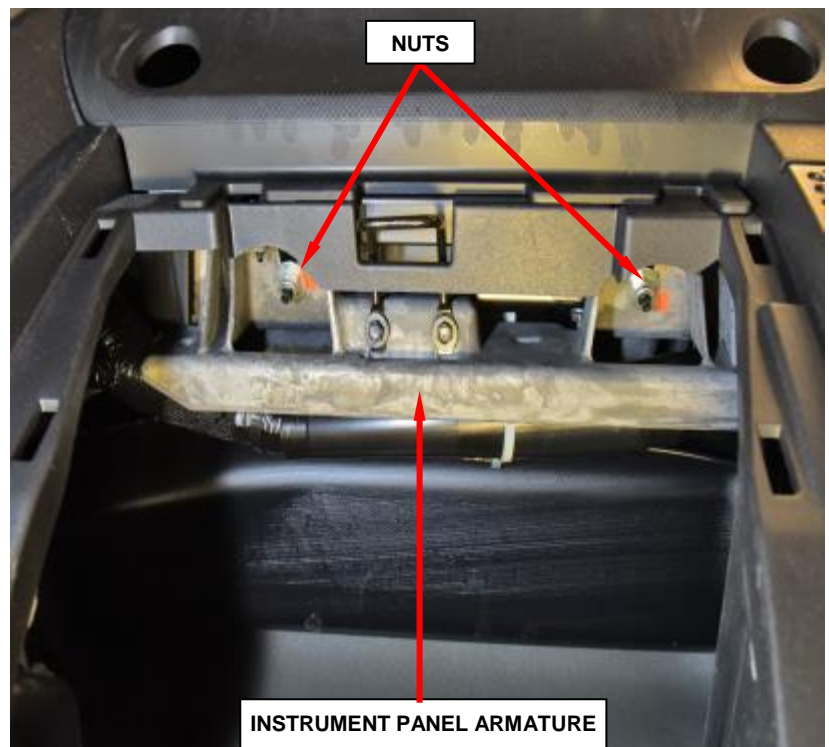

Figure 117 – Lower Passenger Airbag Nuts
6. Reach up into the instrument panel glove box opening to access and remove and **save** the two nuts that secure the passenger airbag lower studs to the instrument panel armature on each side of the glove box latch striker (Figure 117).